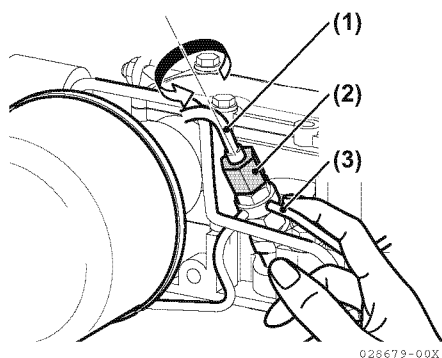

Figure 5-119
To prevent rounding of fuel line nuts, use a "line" or "flare nut" wrench. When loosening the cap nut (Figure 5-119, (2)), hold the return line (Figure 5-119, (3)) to prevent it from breaking.